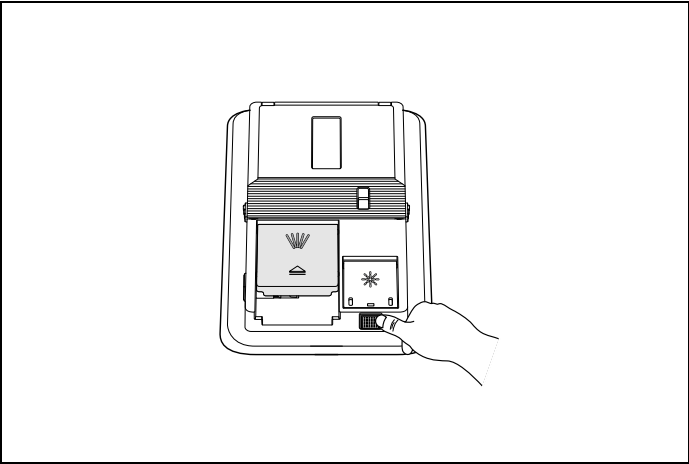

Fig. 71
- 1) To fill the rinse-aid compartment, press the button as shown Fig. 71 .